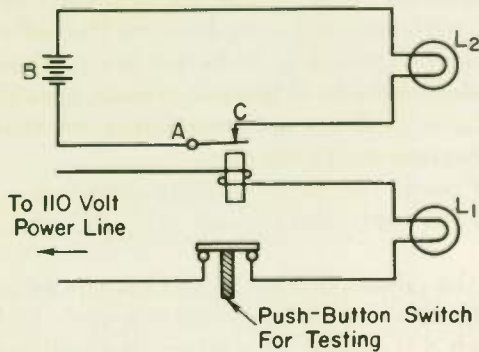
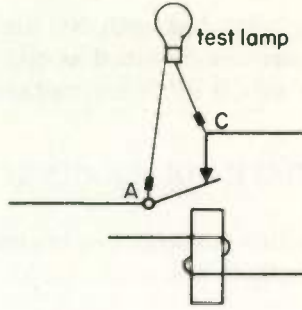

Fig. 15
Fig. 16
2. If for any reason light L_1 Fig. 15 should go off, light L_2 (powered from the emergency battery B) will automatically come on. This circuit is used where it is important to have lights at all times, as in a hospital operating room.
- A push-button switch, such as that shown in Fig. 15, has a spring so that it always returns to its original position when your finger is removed. For the testing switch shown, would you order an NO or NC switch?
(g) The relay contacts in Fig. 15 can be tested to see if they are making electrical contact with each other by holding the terminals of a test lamp between A and C, as in Fig. 16 (a test lamp is just a small light bulb with test leads attached). While this is done, should the push button be pressed? _____. If the test lamp lights, are the contacts making electrical connection with each other? _____.